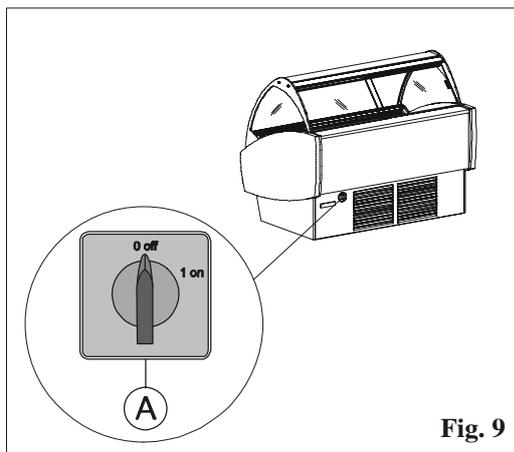

Fig. 9
- 2) Activate the display cabinet master switch, which is found on the rear protection panel. To introduce the electric power supply to the display cabinet, place the master switch at position "1" (fig. 9 pos. A).
To stop the plant act on switch (A), which is found behind the rear protection panel. Position the master switch at “0” (fig. 9 pos. A) disconnecting the display cabinet power supply.
For optimal functioning of the display cabinet, it is recommended to perform prolonged defrosting, shutting the display cabinet down for at least 12 hours, by deactivating the electric power supply switch (A) positioned on the rear protection panel of the display cabinet (fig. 9).